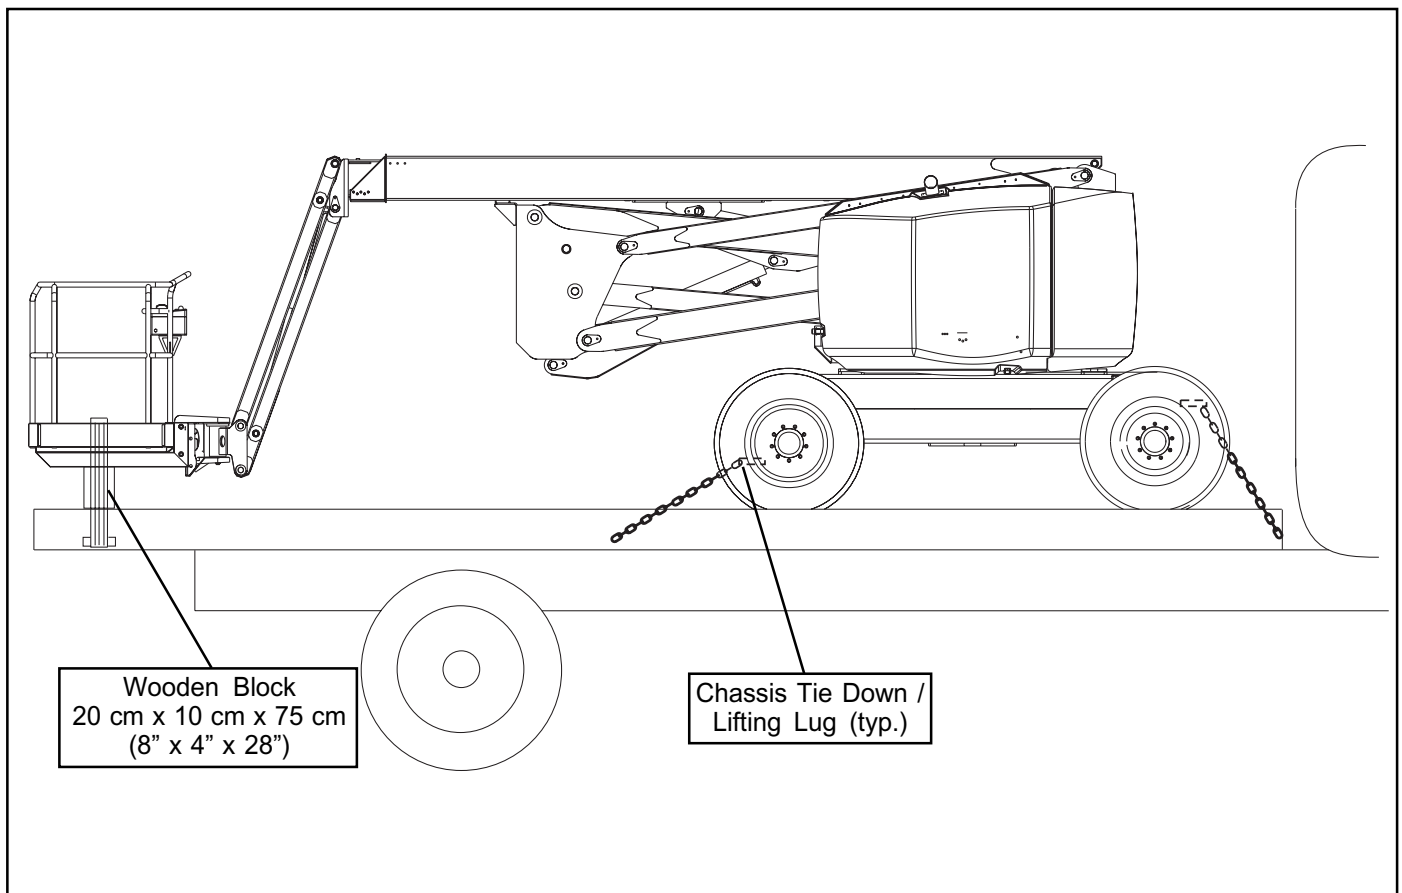

Figure 7: Securing the Machine for Transportation
6. Secure the machine to the transport vehicle using chains / straps of adequate load capacity (refer to specifications, back page) attached to chassis tie down lugs (see Figure 7).
7. Place a wooden block (20 cm x 10 cm x 75 cm [8" x 4" x 28"]) under platform support braces as shown (see Figure 7).
8. Attach ratchet strap; under platform floor grating, over support braces (see Figure 7). Tighten securely, do not overtighten.